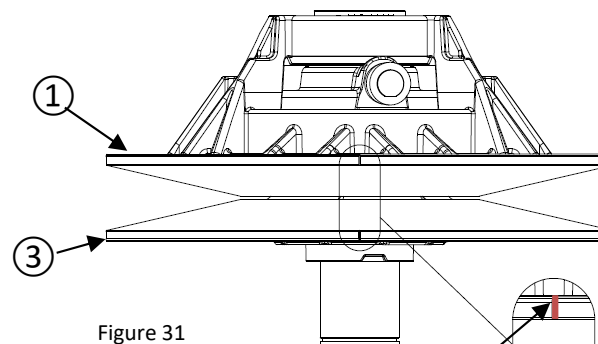
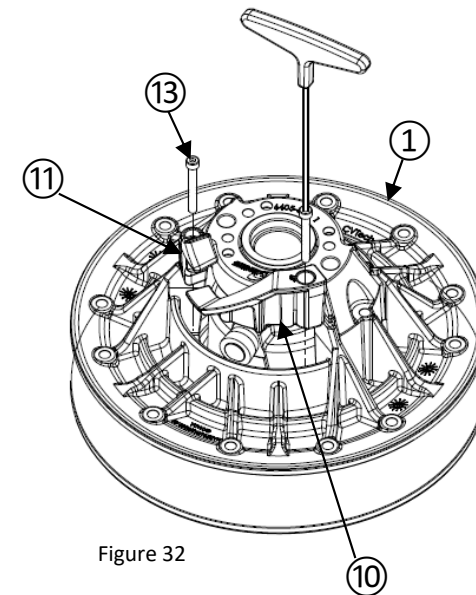

Figure 31
Figure 32
- Insert the sliding sheave ③ on the fixed sheave ① and make sure that the alignment notches are aligned (see figure 31).
- Insert the 2 forward ramps ⑩ and the 2 helix ⑪ in the fixed sheave ①.
- Torque the 4 screws ⑬ to 3,5 Nm (see figure 32).